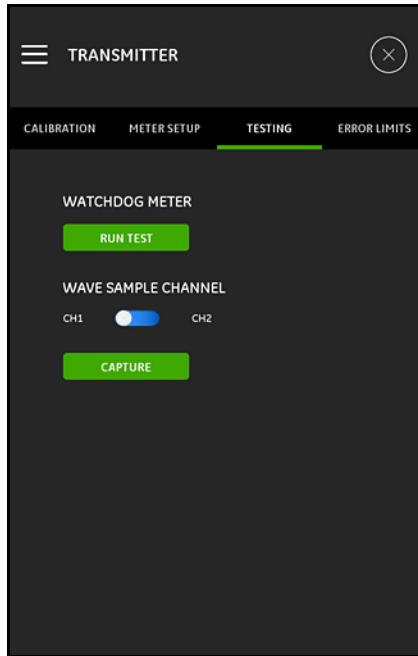

Figure 129: The TESTING Menu
The **TESTING** menu (see *Figure 129* below) is used to ensure that the PT900 is performing properly. The following tests are included:
1. Click the **RUN TEST** button in the **TESTING** menu (see *Figure 129 on page 127*).